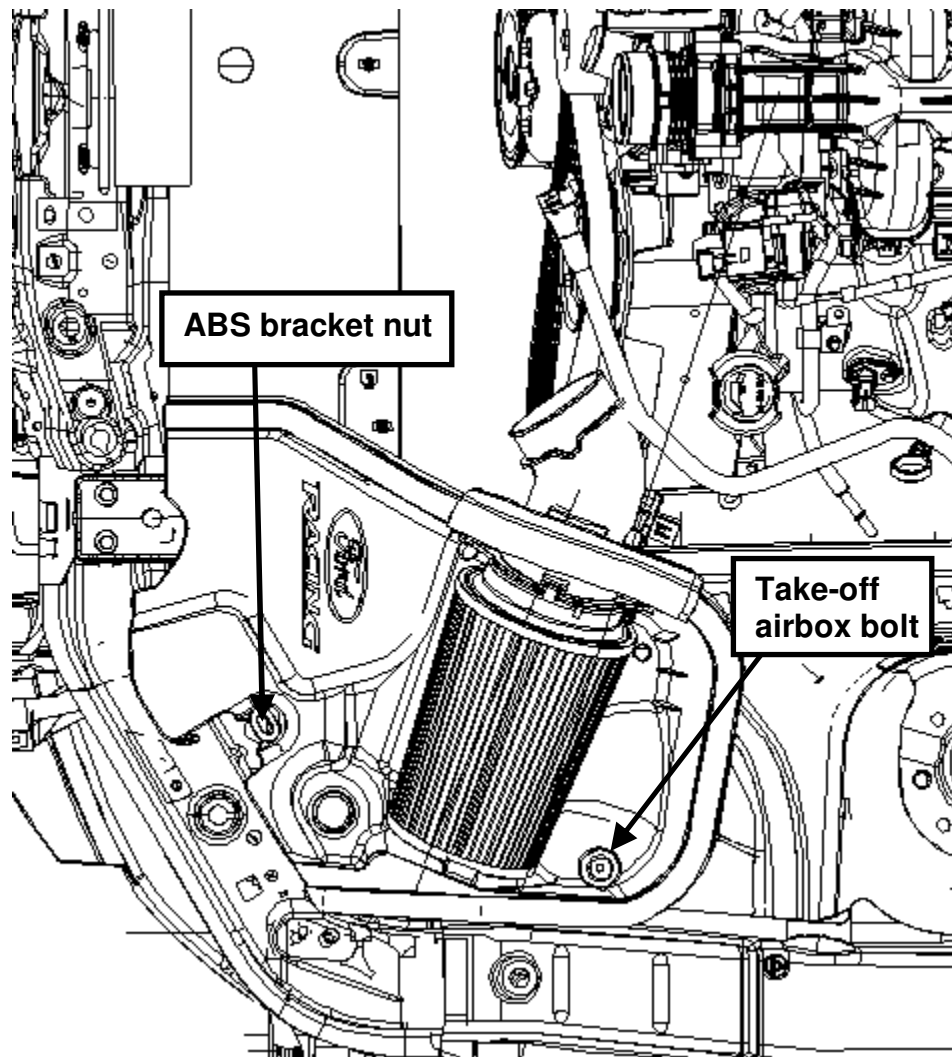

Fig. 6
- STEP 4:** Lower the complete airbox assembly into the vehicle using the two pegs as guides into the rubber grommets. Use the take-off airbox bolt and newly supplied nut to secure the airbox in the vehicle. Torque the M6 bolt to 8 Nm (70 lb in), and the nut to 8 Nm (70 lb in) (See Fig. 6).